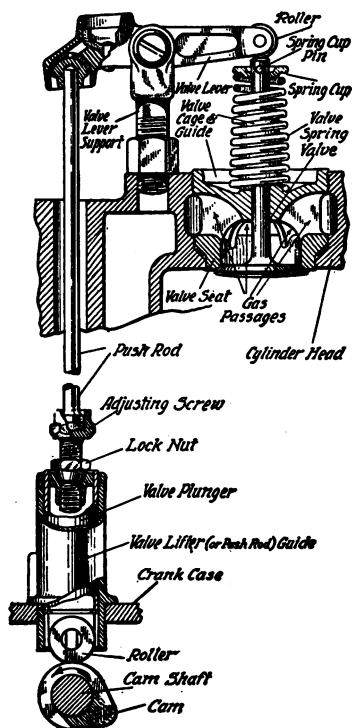

Fig. 181. Typical Overhead-Valve Layout, Showing Complete Mechanism
There are a number of other parts in the valve group whose names and functions should be explained, for these are of interest to both the owner and the repair man. The repair man should know what work they do in order to be able to repair them successfully. Fig. 181 shows an overhead-valve system in which the camshaft is in the usual place in the crankcase; long push rods are used with rocker arms, or levers, at the top. This is mentioned because many, in fact the majority of, motors with overhead valves have an overhead camshaft like the Chalmers, Fig. 156.
**Push Rods and Guides.** As can be seen from Fig. 181 and the explanation accompanying it, the push rod and its guide, or lifter and guide, become important. The shape of the cam is such that it deals the roller and